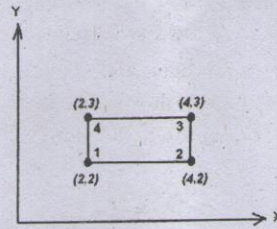

Fig.13(a)
13. (a) (i) A bilinear rectangular element has coordinates as shown in Fig.13(a) and the nodal temperatures are  $T_1 = 100^\circ \text{ C}$ ,  $T_2 = 60^\circ \text{ C}$ ,  $T_3 = 50^\circ \text{ C}$ ,  $T_4 = 90^\circ \text{ C}$ . Compute the temperature at the point whose coordinates are (2.5, 2.5). Also determine the  $80^\circ \text{ C}$  isotherm. (10)